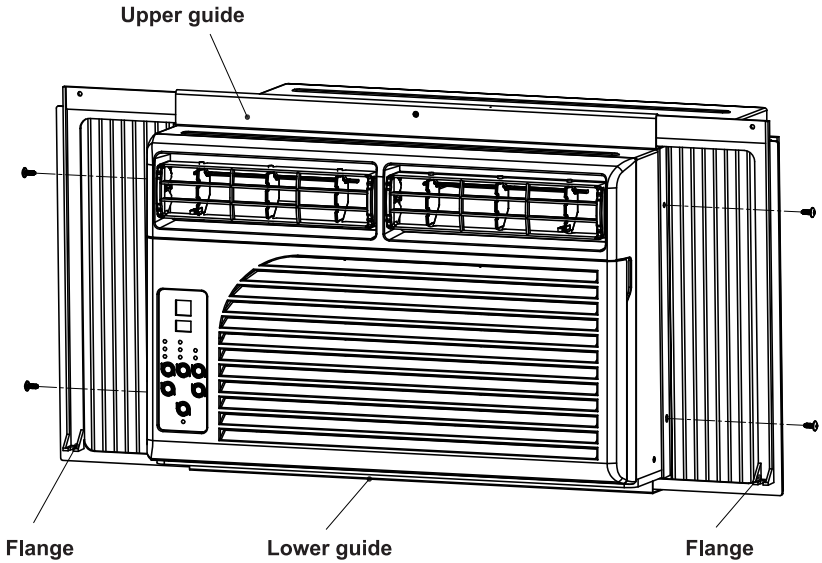

FIG.4
- Insert the side curtains into the upper and lower guides of the air conditioner. Fasten the curtains to the the unit with screws as shown in FIG.4.
There is a left and a right crutain, be sure to use the proper curtain for each side. Hold the according curtain in one hand and gently pull back the center to free the open end. See FIG.4.(When installed the flange for securing the curtain into the window sill will be facing the room side.)